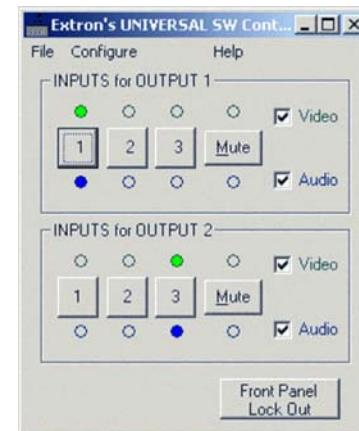

Figure 3-5 — Universal Switcher Control Program window
3. Click OK. The Extron Universal Switcher Control Program window displays the selected inputs for each output (figure 3-5).